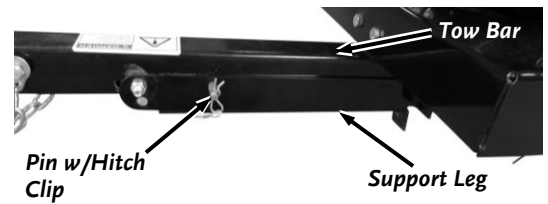

Figure 18
1. Pull the Hitch Clip from the Pin and pull the Pin from the Support Leg and Tow Bar (**Figure 18**).